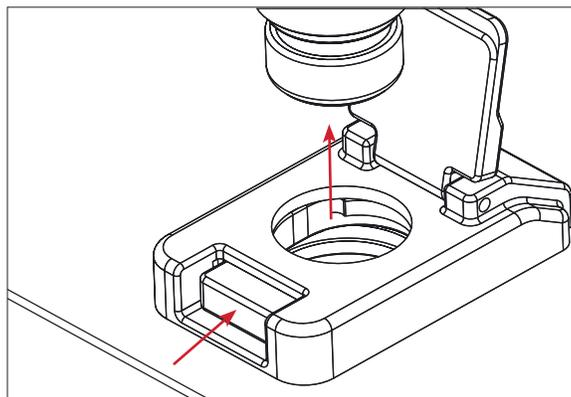

Fig. 1
1. Disconnect the transfer hose from the AirShuttle by pressing the button on the air inlet and removing the hose (Fig. 1).